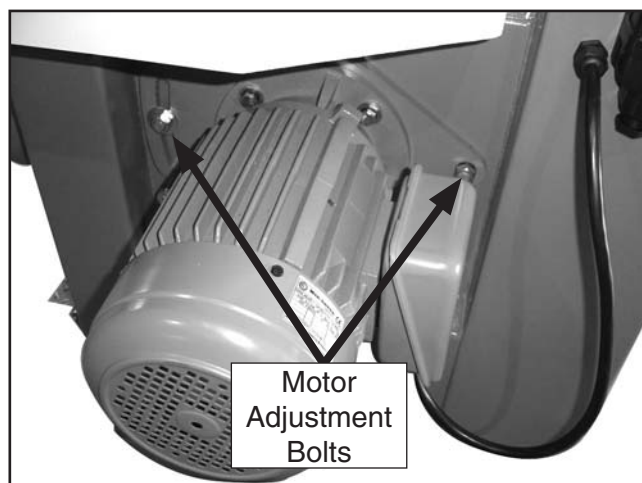
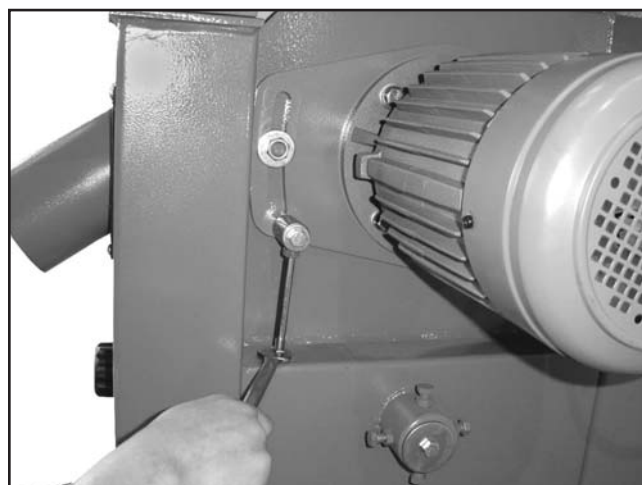

Figure 55. Motor mount screws.
Figure 56. Tightening jam nut.
3. Loosen the motor adjustment bolts shown in **Figure 55**.
4. Turn the bottom jam nut on the shaft shown in **Figure 56** clockwise to tension the V-belt.
3. Loosen the motor adjustment bolts shown in **Figure 55** and turn the jam nut on the shaft (**Figure 56**) counterclockwise to remove tension on the V-belt.
11. Turn the bottom jam nut on the shaft shown in **Figure 56** clockwise to tension the V-belt, then tighten the motor adjustment bolts (**Figure 55**).